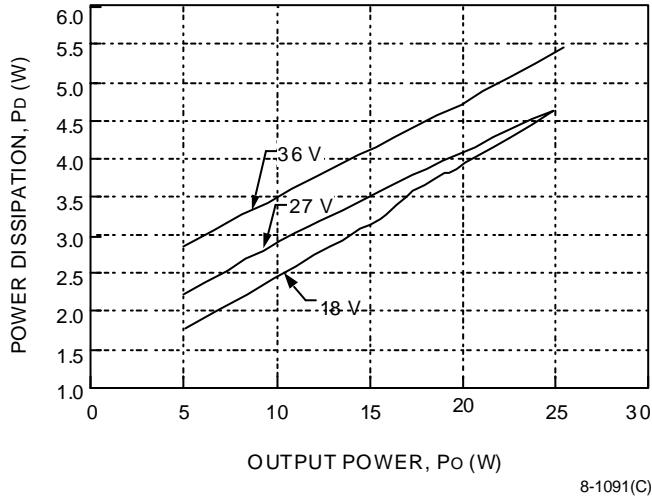
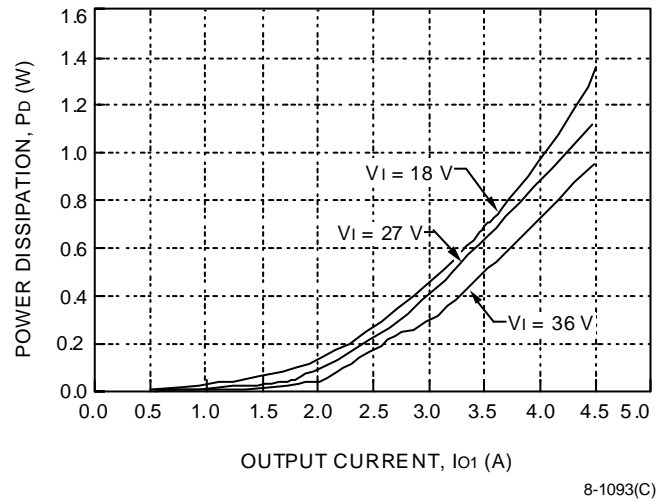

Figure 23. DC025ABK-M Fixed Losses,  $P_p$
Figure 25. DC025ABK-M, DC025ACL-M Losses, Associated with 5 V Output,  $P_{s1}$
The maximum operating temperature of the DC025 Triple Output-Series Power Modules at a given operating condition can be predicted by combining the power dissipation curves (Figures 23 through 27), the power derating curve (Figure 28), and the thermal resistance curve (Figure 28).
Use Figures 23 through 28 and the steps below to predict the safe operating region for many different operating and environmental conditions.
2. Use  $P_{\text{ototal}}$  with the appropriate figure (Figure 23 or 25) to determine the fixed losses ( $P_P$ ) associated with operating at  $P_{\text{ototal}}$ . These losses are independent of which output the load is being drawn from.
3. Use the desired output current ( $I_{o1}$ ) with Figure 25 to determine  $P_{s1}$ , which is the additional power being dissipated due to loading of the main output.
4. Repeat Step 3 for outputs 2 and 3 using the appropriate figure (Figure 23 or 27) to determine  $P_{s2}$  and  $P_{s3}$ , which is the power dissipated due to loading of the auxiliary outputs.
$$\begin{aligned} P_P &= 4.5 \text{ W (from Figure 23)} \\ P_{s1} &= 0.22 \text{ W (from Figure 25)} \\ P_{s2} &= 0.07 \text{ W (from Figure 23)} \\ P_{s3} &= 0.07 \text{ W (from Figure 23)} \end{aligned}$$